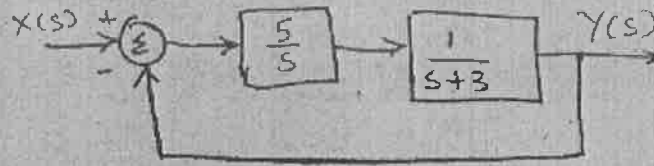

Fig. 5
- (b) (i) For the system shown in Fig. 5 find the effect of PD controller with $T_d = 1/10$ on peak overshoot and setting time when it is excited by unit step input.